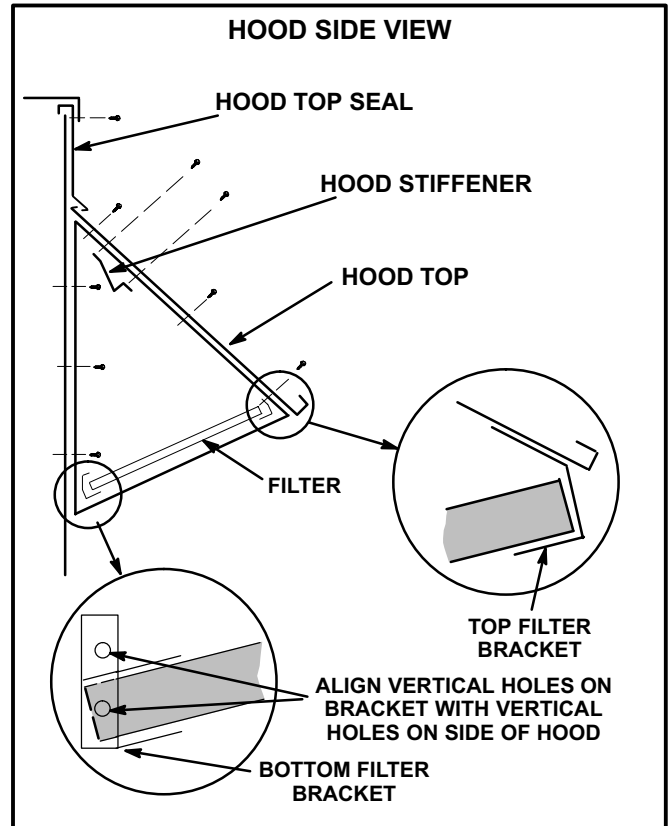

FIGURE 4
- 1- Remove screws securing side flanges of top hood to unit. See figure 4.
- 2- Pivot top hood open and secure sides of intake hood to top of hood using three sheet metal screws on each side. See figure 4.
- 6- Secure the longer top filter bracket to top of hood as shown in figures 4 and 5. Install two filters.